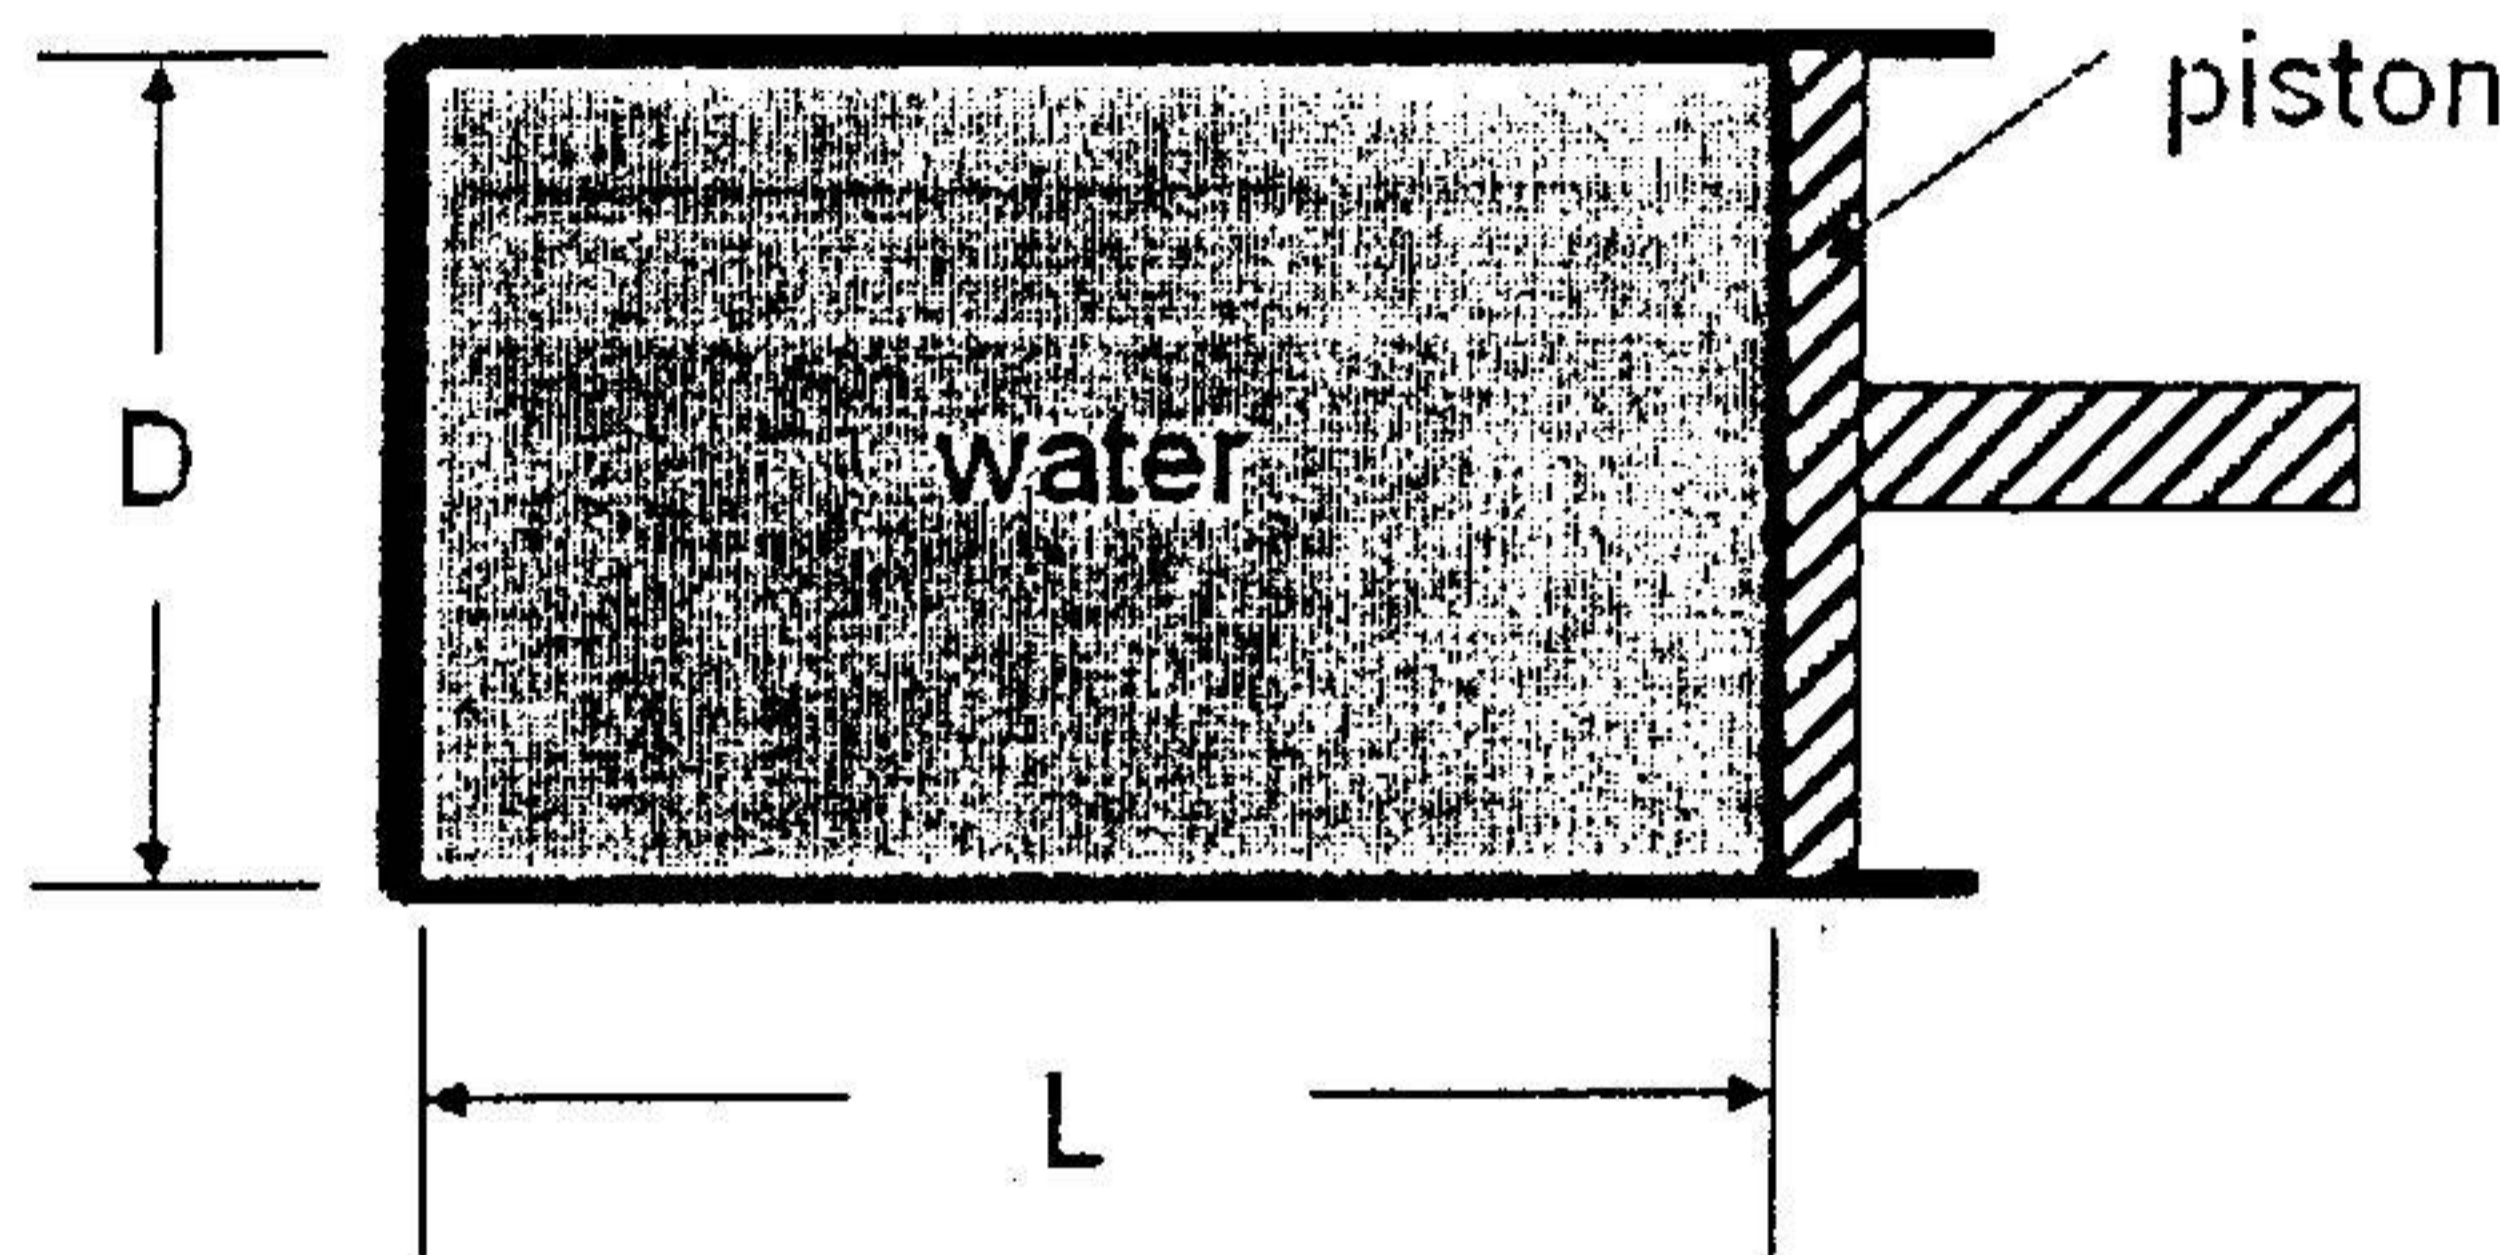

Figure 1
1. Compressibility E of a fluid is defined as $E = \frac{-\Delta P}{(\Delta V)/V}$, the change in volume (V) of a fluid that is subjected to a change in pressure. Figure 1 shows a hydraulic linear actuator with inside diameter D and length L . A measure of **stiffness** of a linear actuator is the amount of the force required to cause a certain linear deflection. For two actuators that have inside diameters of $D=D_1$ and $D=D_2$ and lengths of $L=L_1$ and $L=L_2$ and that are filled with water.